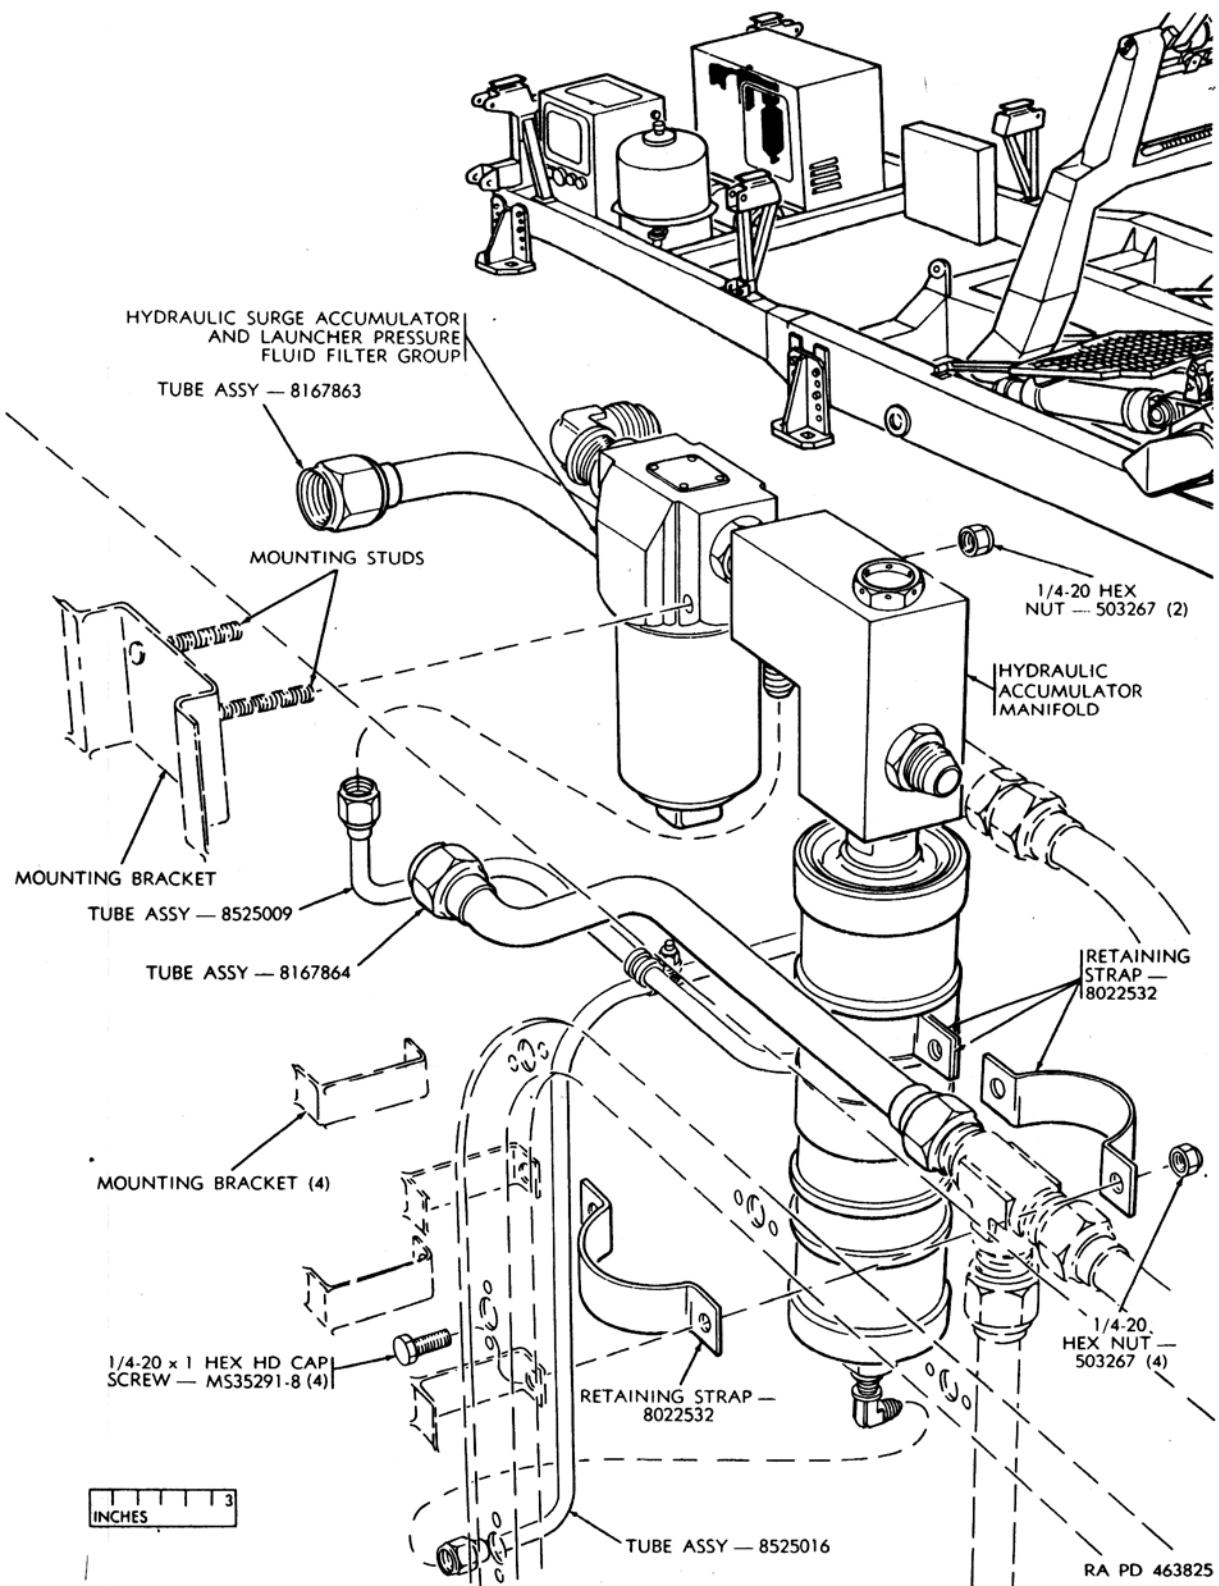

Figure 143. Hydraulic surge accumulator and launcher pressure fluid filter group - removal and installation.
- (f) Disconnect the tube assemblies (fig. 143) attached to the hydraulic surge accumulator and launcher pressure fluid filter group.
- (a) Install retaining straps (fig. 143) and accumulator and launcher pressure fluid filter group.